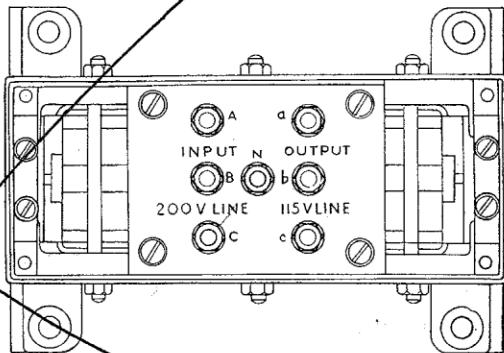

Fig. 2. Typical terminal arrangement
2. A typical transformer is illustrated in fig. 1 and its terminal arrangement is given in fig. 2. Fig. 1 of Appendix 1 to this chapter shows the circuit diagrams of all the transformers listed.